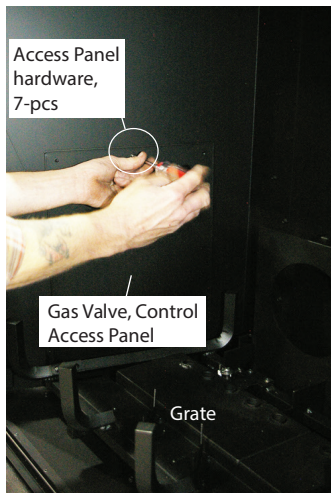

Figure 28. (Removing the panel hardware).
**Step 3.** Once these two steps are complete, remove the eight (8) machine screw that hold the Side panels in place, **Figure 28**. (*Philips head screwdriver required*).